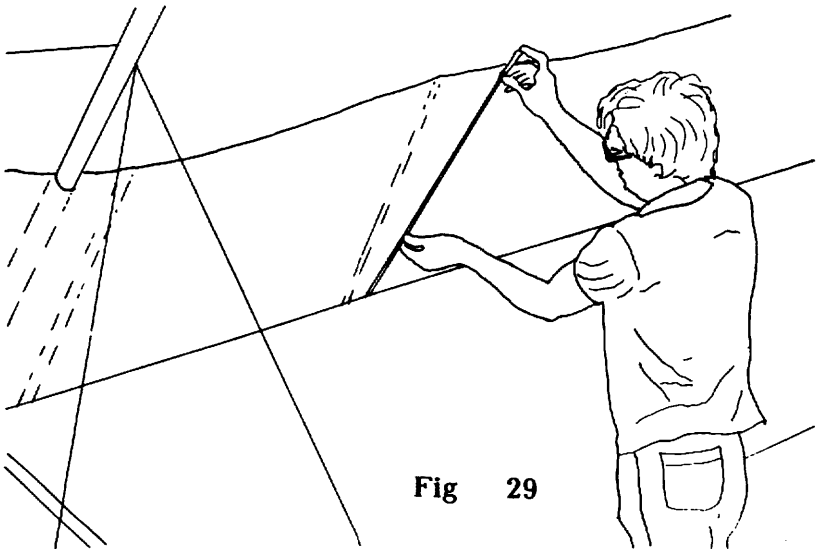

Fig 29
17) Install the bottom surface battens. If the wind is less than 10 mph, this is done most easily by putting the nose down (into the wind.) (Fig 29) The longer bottom surface batten is the inboard batten. When the front of the batten reaches the leading edge seam, you may have to press upward on the batten in order to allow it to clear the seam. Push the batten all the way into the pocket until the rear end is flush with the rear of the pocket. The strings on the rear ends of the bottom surface battens are to facilitate removal of the battens from the sail during beakdown. The bottom surface battens are not secured in the sail. Be sure that the battens go under the leading edge tube, and do not rest on top.